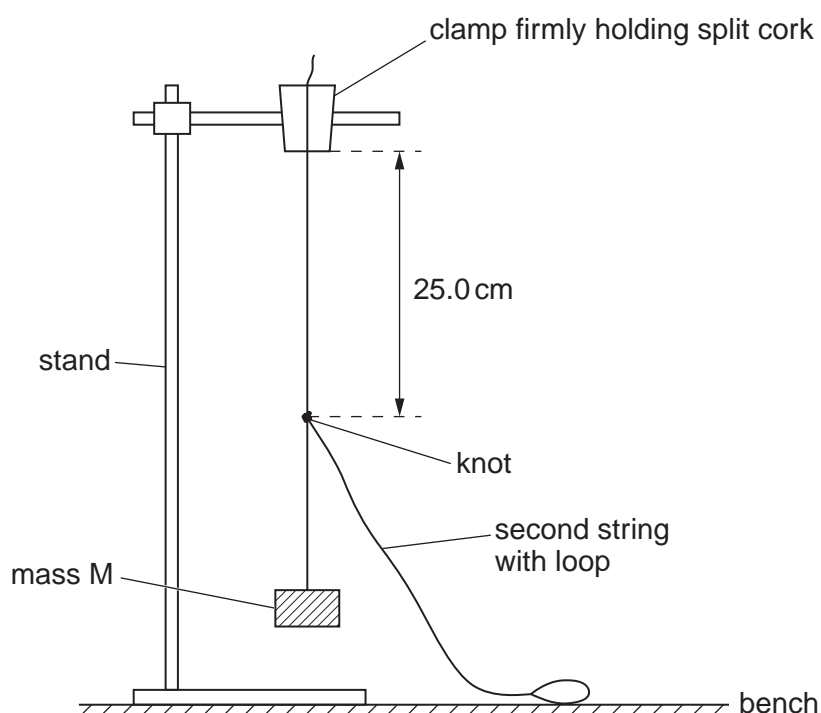

Fig. 1.1 (apparatus as set up by the Supervisor)
2. One end of the thin string should be securely attached to the 80 g mass. The other end of the string should then be passed through the split cork as shown in Fig. 1.1.
3. One end of the second string should be tied firmly to the centre of the first string so that it does not slip. The knot should be 25.0 cm below the split cork. A loop should then be made at the free end of the second string. This is also shown in Fig. 1.1.
7. At the changeover, the Supervisor should restore the apparatus to its original state as shown in Fig. 1.1.